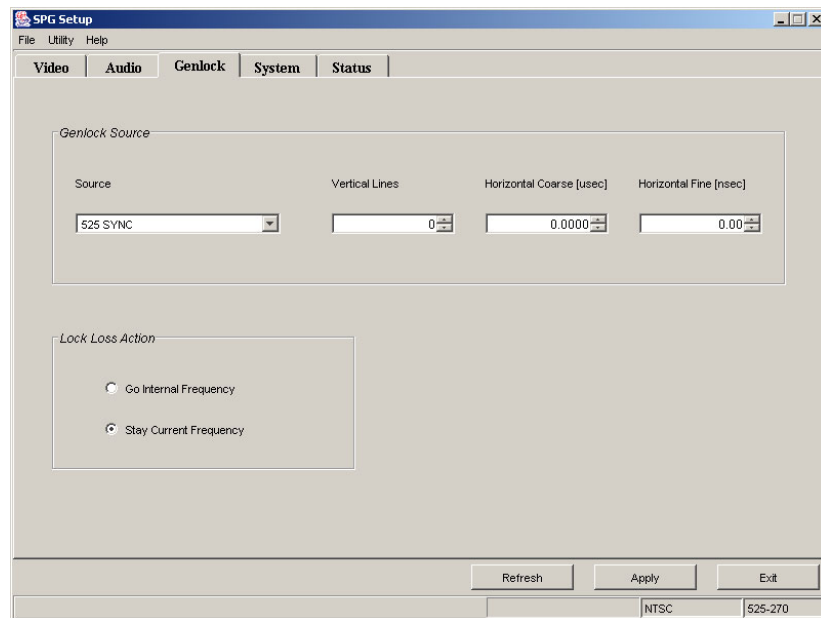

Figure B-4: Java applet window after selecting the Genlock tab
1. Click the **Genlock** tab on the Java applet window. This opens the parameter setting fields for that tab (see Figure B-4).